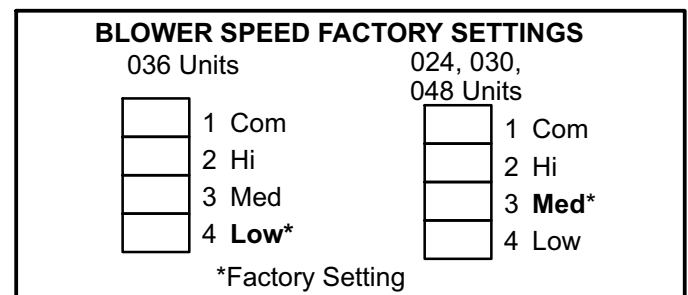

FIGURE 6
- 3- Use figure 6 to determine the factory set blower speed.